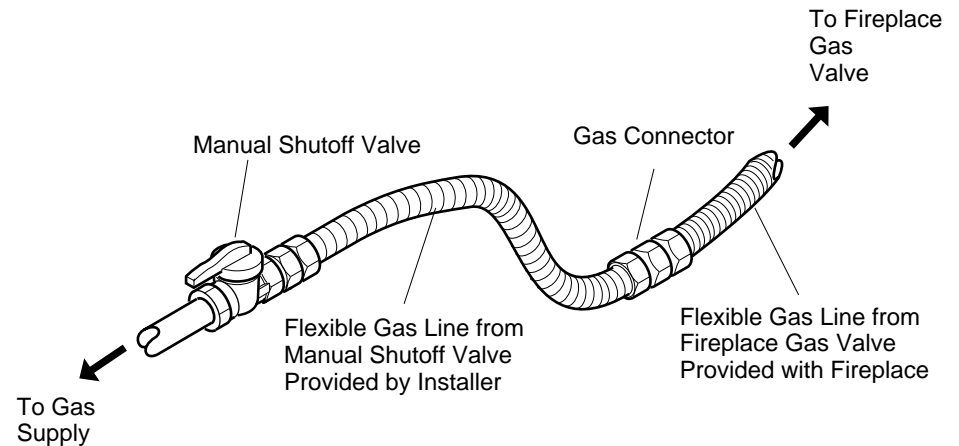

Figure 24 - Attaching Flexible Gas Lines Together
NOTICE: Most building codes do not permit concealed gas connections. A flexible gas line is provided to allow accessibility from the fireplace (see Figure 24). The flexible gas supply line connection to the manual shutoff valve should be accessible.
4. Apply pipe joint sealant lightly to male threads of gas connector attached to flexible gas line (see Figure 24). Connect flexible gas line to flexible gas line attached to gas valve of fireplace (see Figure 24).